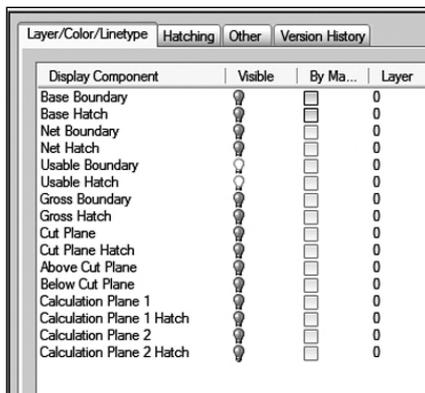

Figure 14: Display representation
4. In the left pane, select the Display Set and then revise the hatch and boundary visibility setting. Figure 14 shows the Display Set Plan Presentation Usable Visibility settings.